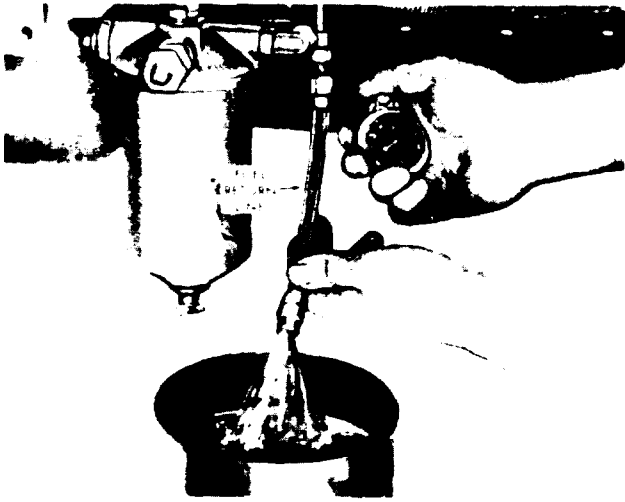

Figure 11C-79. Measuring Fuel Flow
1. Disconnect the fuel return hose from the fitting at the fuel tank and hold the open end in a convenient receptacle. (see Figure 11C-79 on page 11C-51).